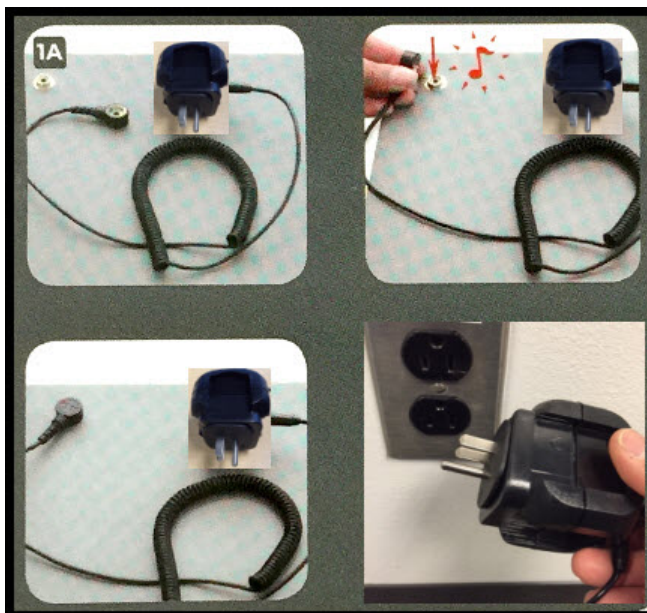

Figure 2. VAS6613 ESD work surface grounding plug.
4. Ground the ESD mat by plugging the 110V grounding strap into a wall socket or power strip (Figure 2). If a power strip is used, it must be plugged into a grounded wall outlet. (See attached user instructions for VAS6613 titled "VAS6613 ESD Workspace Guide.pdf".)